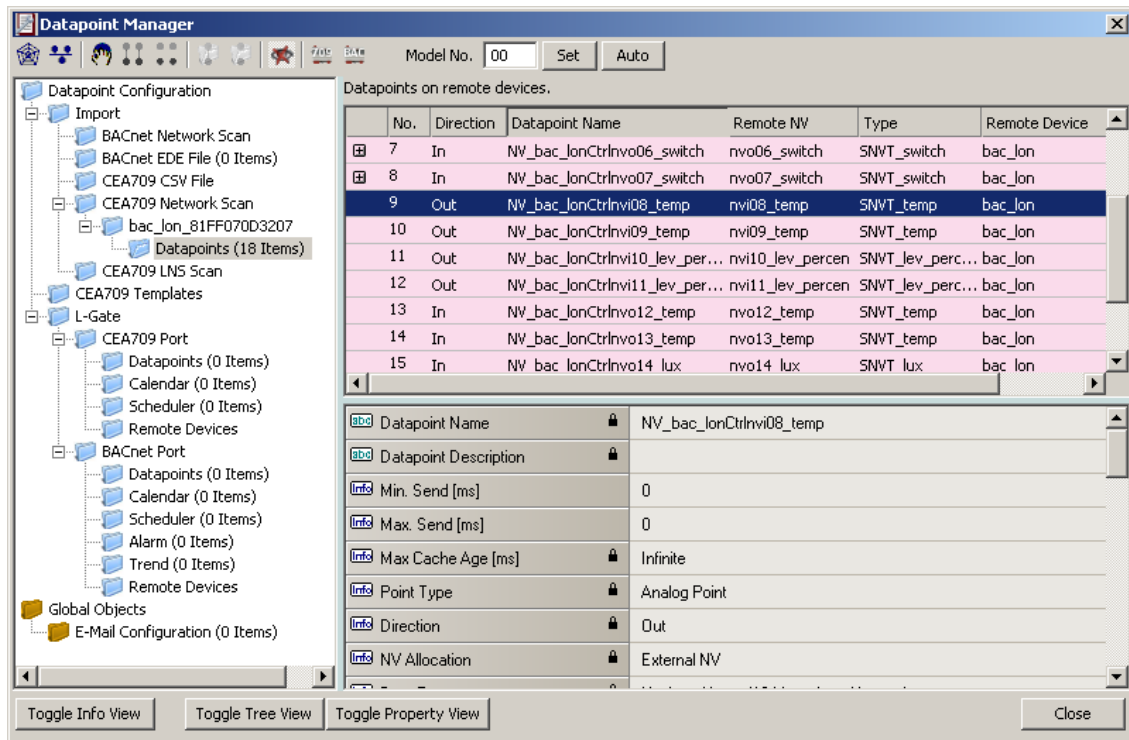

Figure 91: CEA-709 network scan results.
6. Select a device in the device list and click the button **Scan Device**. This scans the NVs on the selected device and adds them to the CEA709/852 Network Scan folder as a separate sub-folder for the device as shown in Figure 91.